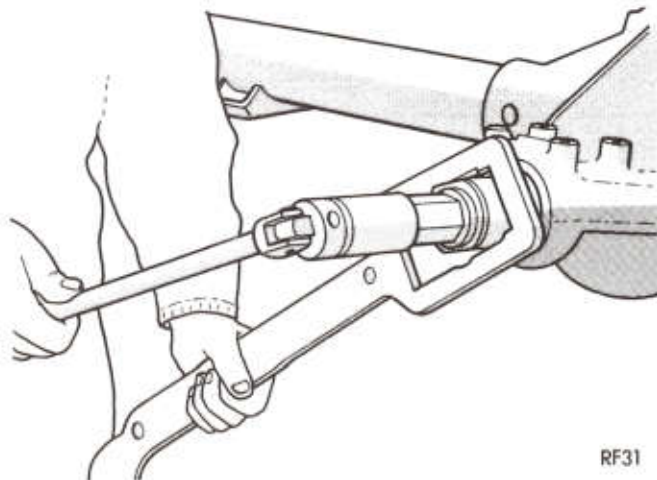

Fig. 24—Seating Bearing Cups in Axle Housing
(12) While holding compression sleeve from turning with Tool C-3281, tighten nut, thereby drawing pinion bearing cups into axle housing bearing cup bores. Permit tool to turn several revolutions during tightening operation to prevent brinnelling of bearing cups or cones (Fig. 24).